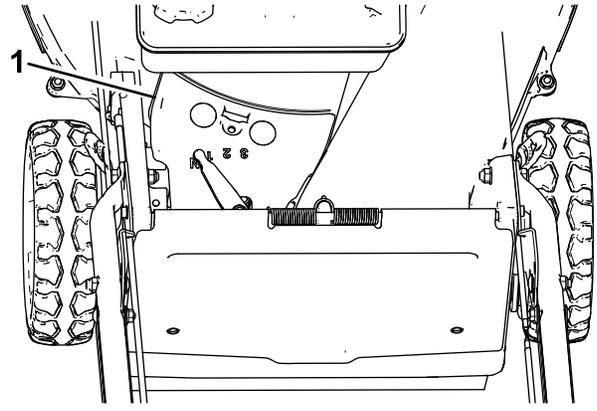

Figure 28
3. Remove the belt cover (Figure 28) from the mower housing.